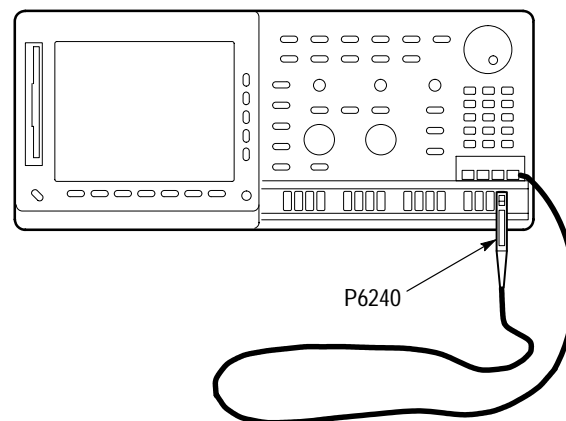

Figure 4–21: Test Hookup for Probe Compensator Check
- a. Install one probe on channel 1. Connect the probe tip to a **PROBE CALIBRATION** signal output on the front panel. (See Figure 4–21.)